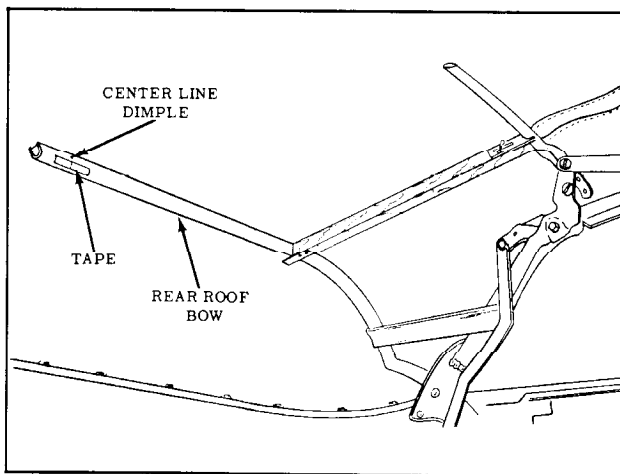

Fig. 17-39 Marking Rear Roof Bow
27. Along forward surface of rear roof bow install a 1" piece of tape at centerline dimple of rear roof bow. Using a pencil, mark centerline of rear bow on tape. (Fig. 17-39)
NOTE: The deck seam mark will vary slightly ($\pm 1/4"$) depending upon position of rear roof bow. Also check centerline mark on inner lining of top material. Mark should correspond to centerline mark on rear roof bow. (Fig. 17-39)